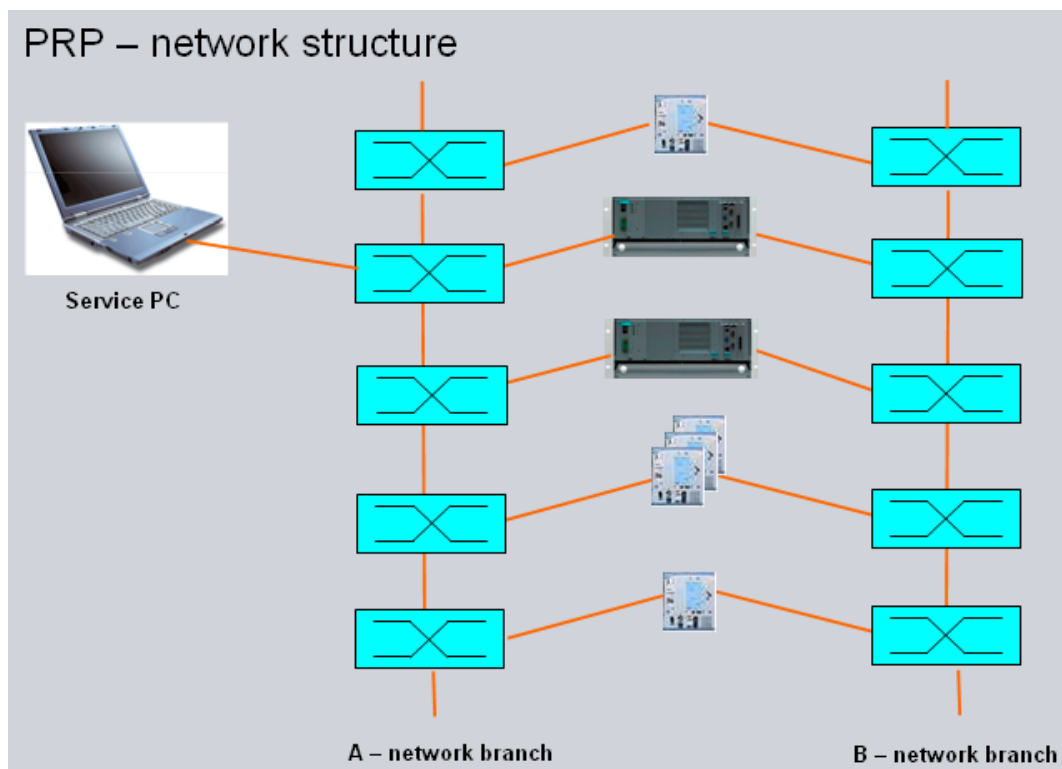

Figure 4-1 Configuration example for a PRP – network. Connection of a Service PC to A-network branch.
- Connect all devices with the EN100 module via Ethernet (Fig. 4-1)